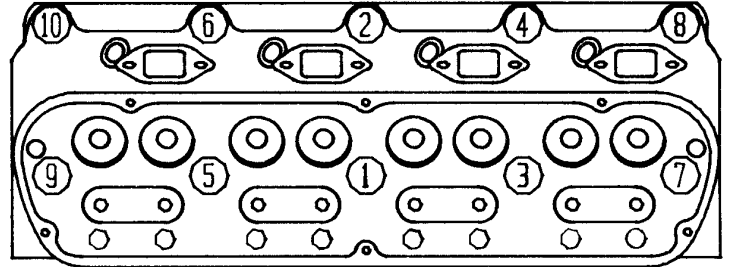

Figure 1— Tightening Sequence
- Installation is the same as for original equipment cylinder heads. Consult service manual for specific procedures, if necessary. See separate section on head gasket selection. Be sure that the surface of the block and the surface of the head is thoroughly cleaned to remove any oily film before installation. Use alcohol or lacquer thinner on a lint-free rag to clean. Apply moly-oil mixture to head bolt threads, washer, and area under head bolt to prevent galling and improper torque readings. Torque to 70 ft./lbs. for 7/16" bolts (289/302) or 100 ft./lbs. for 1/2" bolts (351-W) in three or four steps following the factory tightening sequence (see Figure 1), then tighten the long (upper) head bolts to 80 ft./lbs. (7/16") or 110 ft./lbs. (1/2"). A re-torque is recommended after initial start-up and cool-down (allow 2-3 hours for adequate cooling).